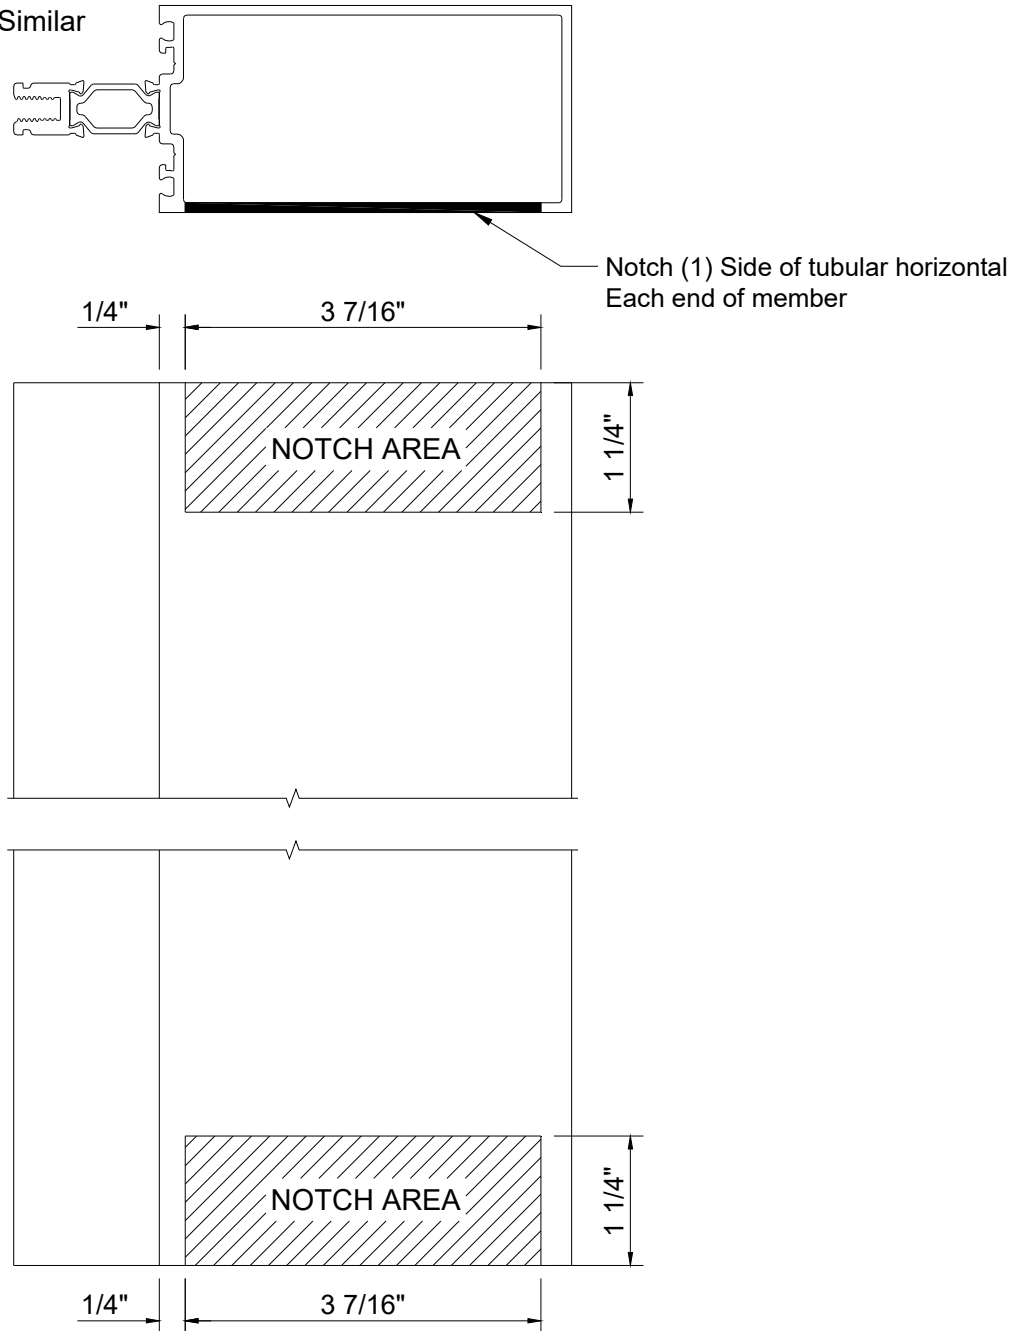

Figure 15: Tubular Horizontal Notch Fabrication
- 7.2 When using tubular horizontals, both ends of the horizontal members must be notched on the last installed bay. Reference *Figure 15*.